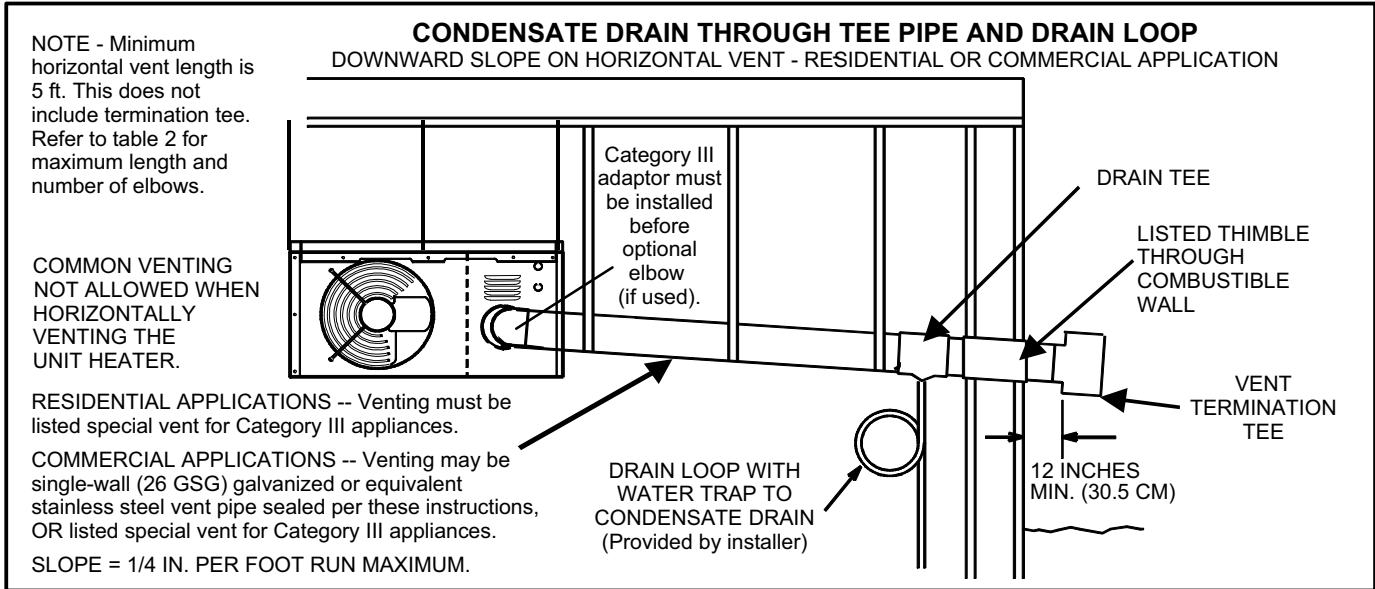
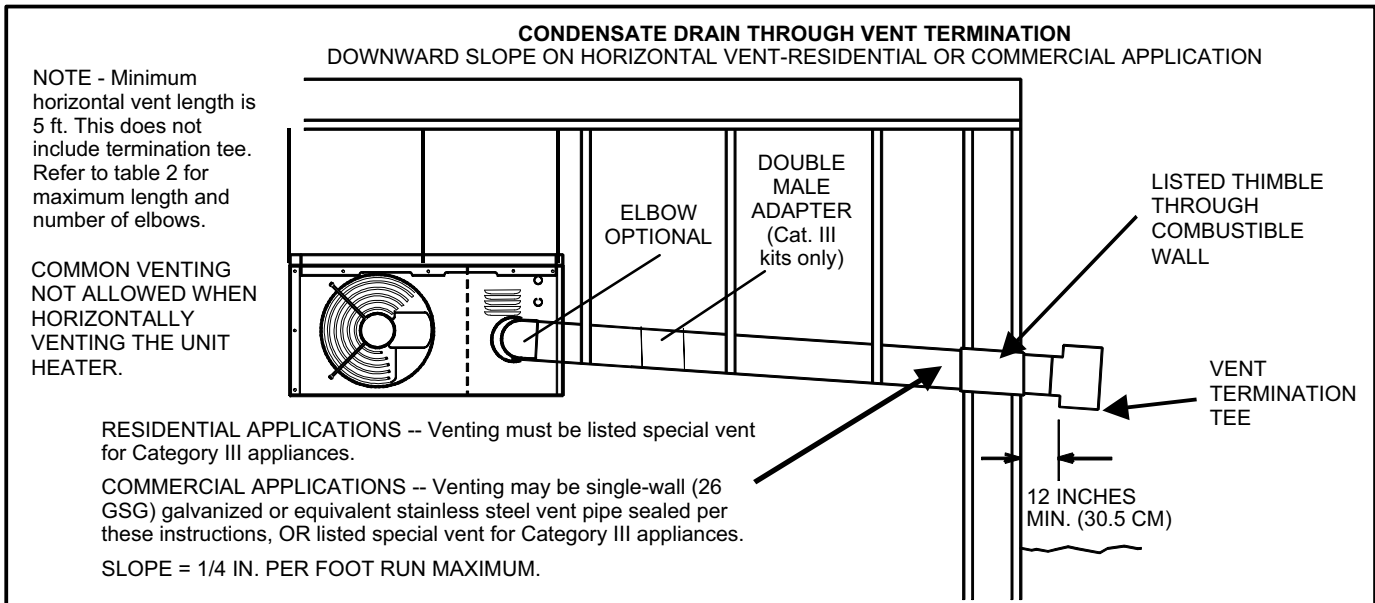

FIGURE 4
FIGURE 5
- 17 - Select a wall termination point that will maintain 1/4" rise per foot slope of horizontal run of vent pipe. In areas where authorities having jurisdiction permit, a downward slope of maximum 1/4" per foot is also acceptable. Condensate drainage can be collected in a tee pipe section (figure 4) with drain loop similar to one used for upward slope vent, or allowed to drip through the vent termination, if permitted by authorities (figure 5).